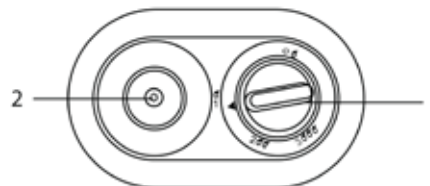

Fig. 2
Control panel (fig. 2)
2. Press and slowly turn the gas control knob on the control panel to «1» position (Fig.2). Keep the gas control knob pressed for 20-30 seconds. At the same time, press the piezo-ignition button several times, until the pilot lights up. Every time you press the piezo-ignition button, you can hear a loud click and see a spark on the piezo-ignition electrode. Continue keeping the gas control knob pressed for 10-15 seconds after ignition of the pilot flame in order to activate the flame detector.